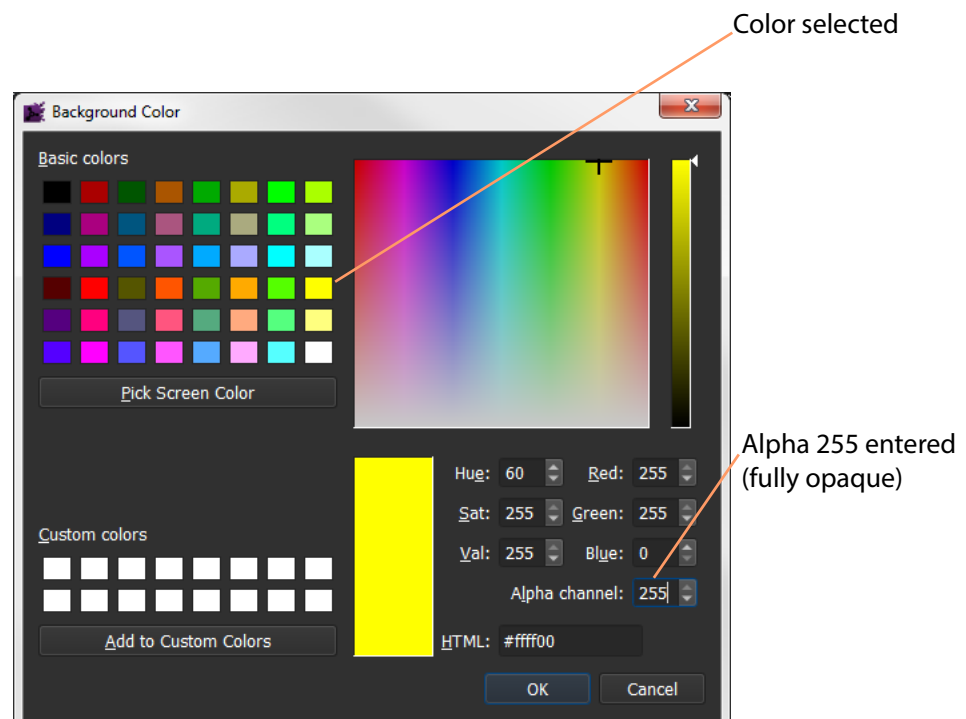

Fig. 8-20: Color Picked
- 6 Click on the ... icon to show the **Background Color** dialog. See Figure 8-20 on page 71.